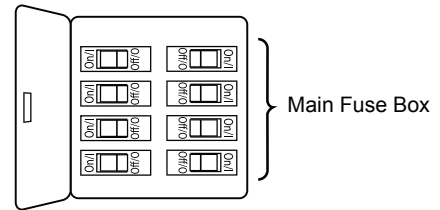
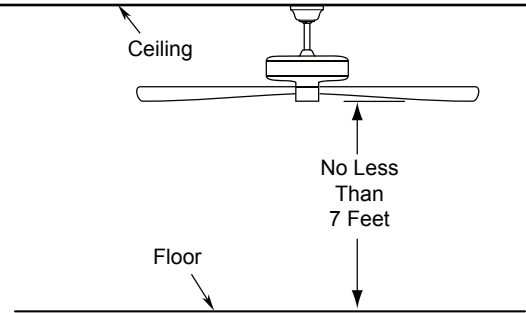

Figure 1
Figure 2
Your new ceiling fan will require a grounded electrical supply line of 120 volts AC, 60 HZ, 15 Amp Circuit. Electrical code requires use of a fan-rated outlet box to support the extra weight and motion associated with a ceiling fan. A fan-rated outlet box will be labeled as such and typically supports up to a 70lb ceiling fan. Fan-Rated Outlet Boxes vary in ratings and design. Ensure the ratings of your ceiling fan outlet box meet the requirements for the ceiling fan being installed. Figure 1, Figure 2 and Figure 3 depicts different structural configurations that may be used for mounting the outlet box.
Low profile outlet box (Figure 1)
Deep outlet box (Figure 2)
- ☐ **1.** Remove the three stabilizer tabs and plastic bag from the motor. Discard the stabilizer tabs. (Figure 1)
- ☐ **2.** Prior to assembly, set aside and save the hardware bags packaged with your fan. Remove the hanger ball by loosening the set screw in the hanger ball until the ball falls freely down the downrod. Remove the pin from the downrod, then remove the hanger ball. Retain the pin and hanger ball for reinstallation in Step 7. (Figure 2)
To avoid possible fire or shock, be sure electricity is turned off at the main fuse box before hanging. (Figure 1)
The fan must be hung with at least 7' of clearance from floor to blades. (Figure 2)
1. To set the code on receiver unit, slide dip switches to the same positions as set on the remote control. (Figure 1)
To avoid possible electrical shock, be sure electricity is turned off at the main fuse box before wiring. (Figure 2)
- ☐ 1. Assemble canopy by rotating key slot in canopy over shoulder screw in hanger bracket, taking care not to pinch the wires. Fully assemble and tighten second shoulder screw that was previously removed, then tighten another shoulder screw. (Figure 1)
- ☐ 2. Securely attach and tighten the canopy screw cover over the shoulder screws in the hanger bracket utilizing the key slot twist-lock feature. (Figure 2)
1. Secure the three blades using the 3/16"-24 truss head screw with spring washer/flat washer through the holes located on the bottom of the motor assembly. (Figure 1)
2. Attach the plastic cap assembly to the motor assembly, which is held in place by a magnet. (Figure 2)
- ☐ 1. **IMPORTANT:** Using a full range dimmer switch (not included) to control fan speed will damage the fan. To reduce the risk of fire or electrical shock, do not use a full range dimmer switch to control the fan speed. (Figure 1)
- ☐ 2. Restore electrical power to the outlet box by turning the electricity on at the main fuse box. (Figure 2)